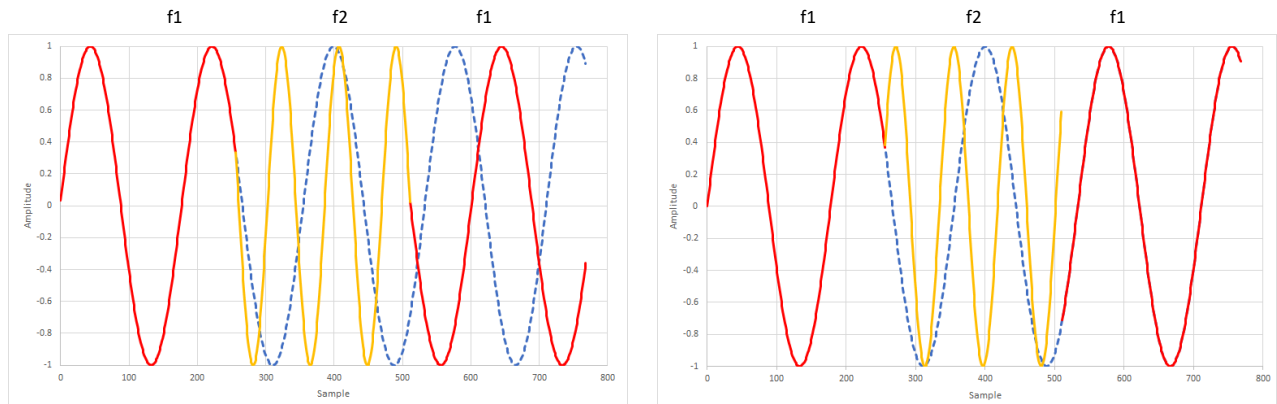

Figure 8-54. Phase Continuous (left) and Infinite Phase Coherent (right) NCO Frequency Switching
1. **Phase Continuous NCO** :During a NCO frequency change, the NCO phase gradually adjusts to the new frequency as shown in Figure 8-54 (left). The 'dashed' line shows the phase of original f_1 frequency.
2. **Infinite Phase Coherent NCO**: With a phase coherent NCO, all frequencies are synchronized to a single event using SYSREF. This enables an infinite amount of frequency hops without the need to reset the NCO as phase coherency is maintained between frequency hops. This is illustrated in Figure 8-54 (right). When returning to the original frequency f_1 the NCO phase appears as if the NCO had never changed frequencies.